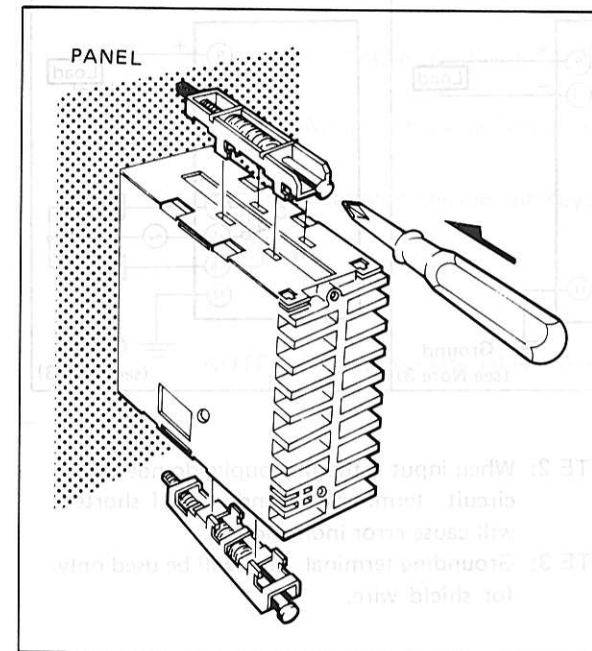

Fig. 2
- (1) Separate Mounting (Fig. 2)